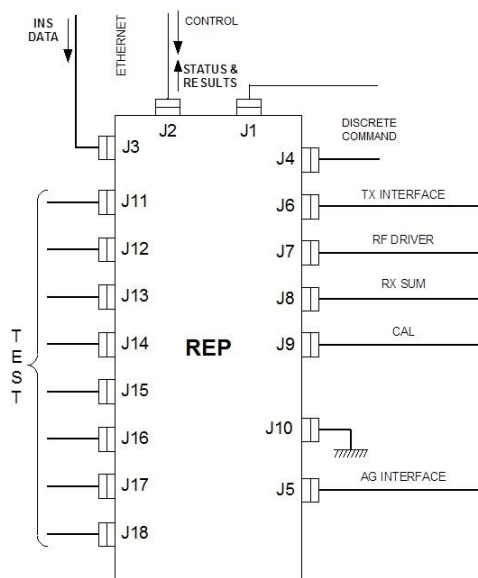

Figure 3 REP Interconnection
- 5 Connect the cables to the relevant front connectors of the units as per recorded position or as shown in Figure 3.